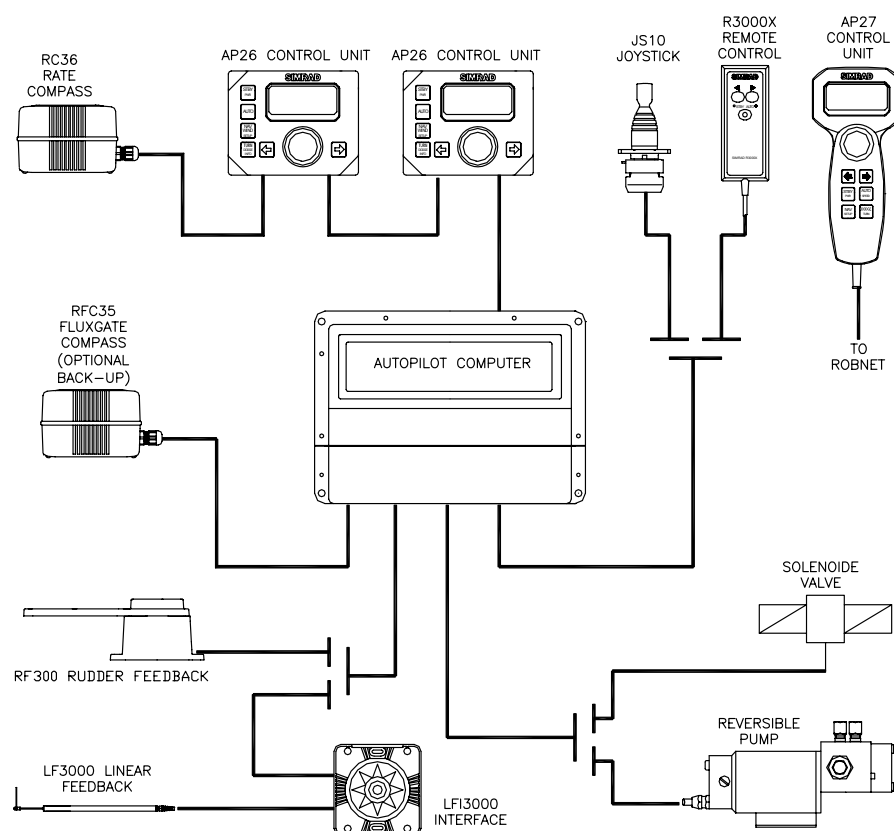

Figure 3-1 Autopilot system layout with options
1. Determine the system configuration you are installing (Figure 3-1)
It is important to become familiar with the configuration of the system prior to beginning the installation. The autopilot system layout with options is shown in Figure 3-1.